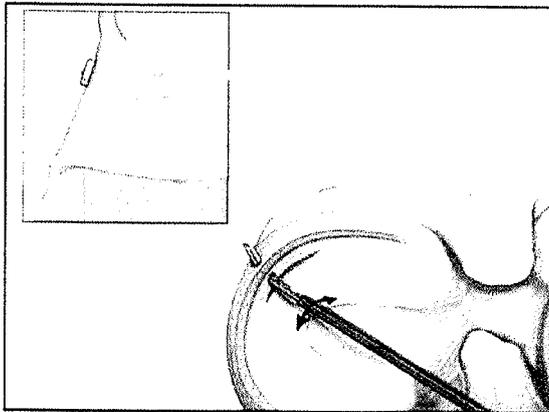

Figure 4. Placement of implant 1
3. Oscillate the needle approximately 5° and pull the needle out of the meniscus, releasing T1 behind the meniscus (Figure 4).